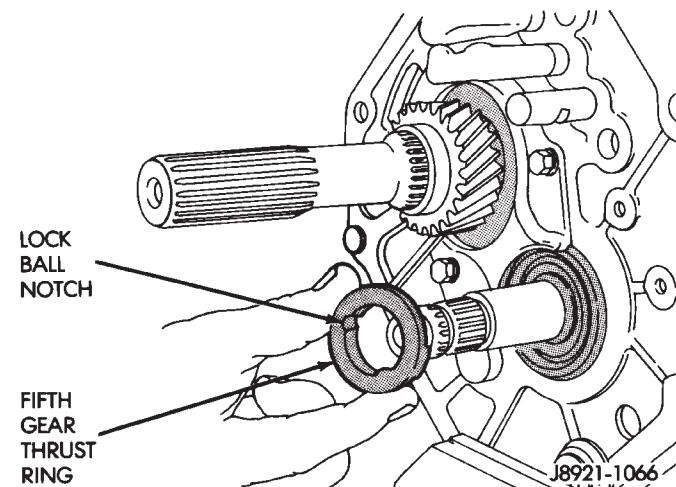

Fig. 94 Install Fifth Gear Thrust Ring
(40) Install the fifth gear thrust ring onto the countershaft and over the lock ball (Fig. 94).